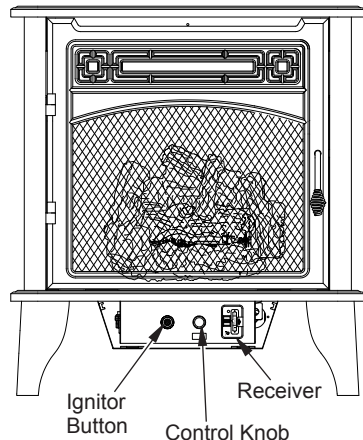

Figure 20 - Ignitor Button and Control Knob Locations
1. Place the slide switch on the receiver in the remote position (see Figure 20).